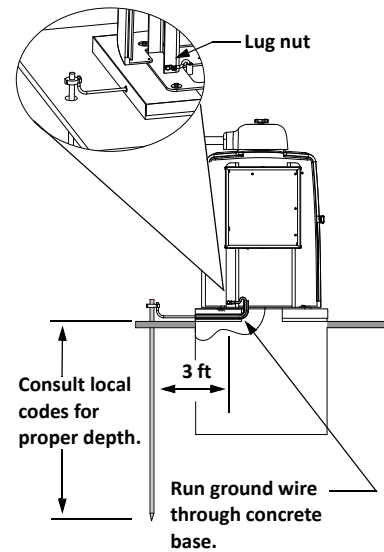

Figure 2-1.
1. Install a grounding rod per local building codes. See Figure 2-1.